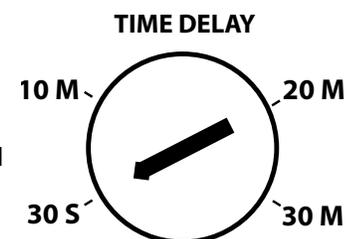

Fig. 2
- Turn dial to desired **Time Delay** period (see Fig. 2)